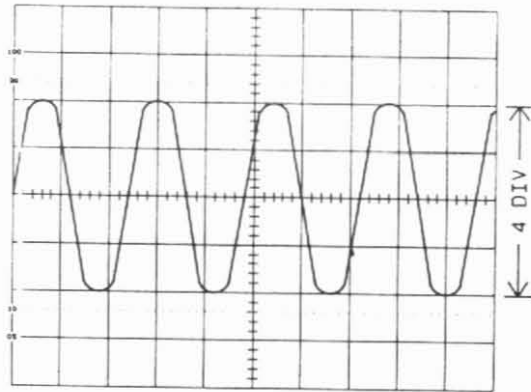

Fig. 2-16. PEAK-TO-PEAK VOLTAGE MEASUREMENT
- Count the number of divisions of both the top and bottom of the waveform and multiply the resultant number by the value of the VOLTS/DIV switch, thus resulting in the peak-to-peak voltage. For example, if the value of the VOLTS/DIV switch was set to 2V when the waveform same as that shown in Fig. 2-16 had been measured, it would in fact be 8.0 Vp-p.